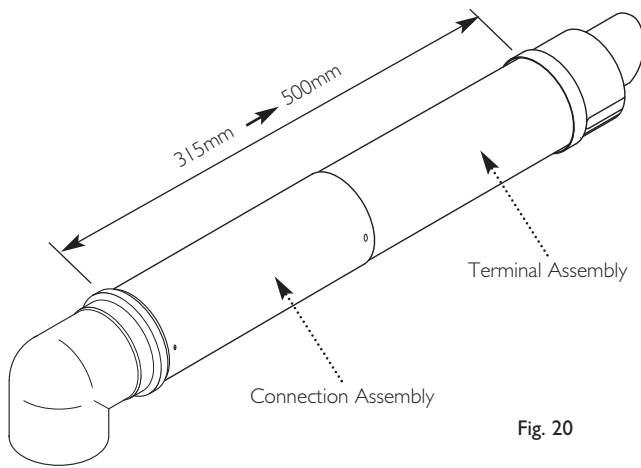

Fig. 20
2. The two sections can be adjusted to provide a length between 315mm and 500mm (Fig. 20) when measured from the flue elbow (there is 50mm engagement into the elbow).